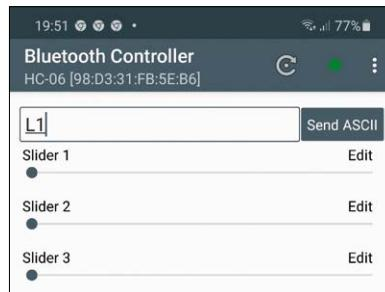

Figure 11.6: Example command to turn the LED ON.
- To turn the LED ON, enter command **L1** and click **Send ASCII**. You should see the LED turning ON. Enter command **L0** to turn OFF the LED. Figure 11.6 shows an example screen.